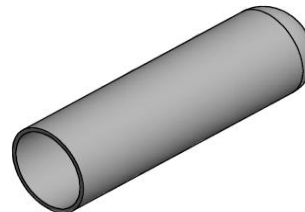

Figure 4
4. Install the Bullet Assembly Tool (**Figure 4**) over armature shaft.